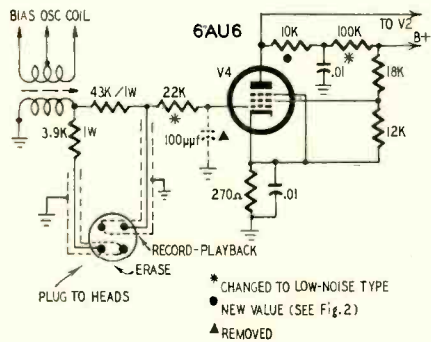

Fig. 3—Schematic of the first stage of the modified Pentron playback circuit.
back head via the capacitance between the hot lead to this head and that to the erase head. As shown in Fig. 3, separate coaxial cables were run to the two heads, and the correct amount of current to each was supplied through limiting resistors. To minimize capacitance across the record head, Belden 8401 cable, with a capacitance of only 25 μ f per foot, was used to feed signals and bias current from the preamplifier to the record-playback head.
3. *Low-noise resistors.* The plate load and grid resistors of the first stage tubes were replaced by Aerovox type CP $\frac{1}{2}$ Carbofilm low-noise precision resistors (Figs. 3, 5). Also, the 47,000-ohm grid resistors of the push-pull bias oscillator (Fig. 2), which uses a 12AU7,